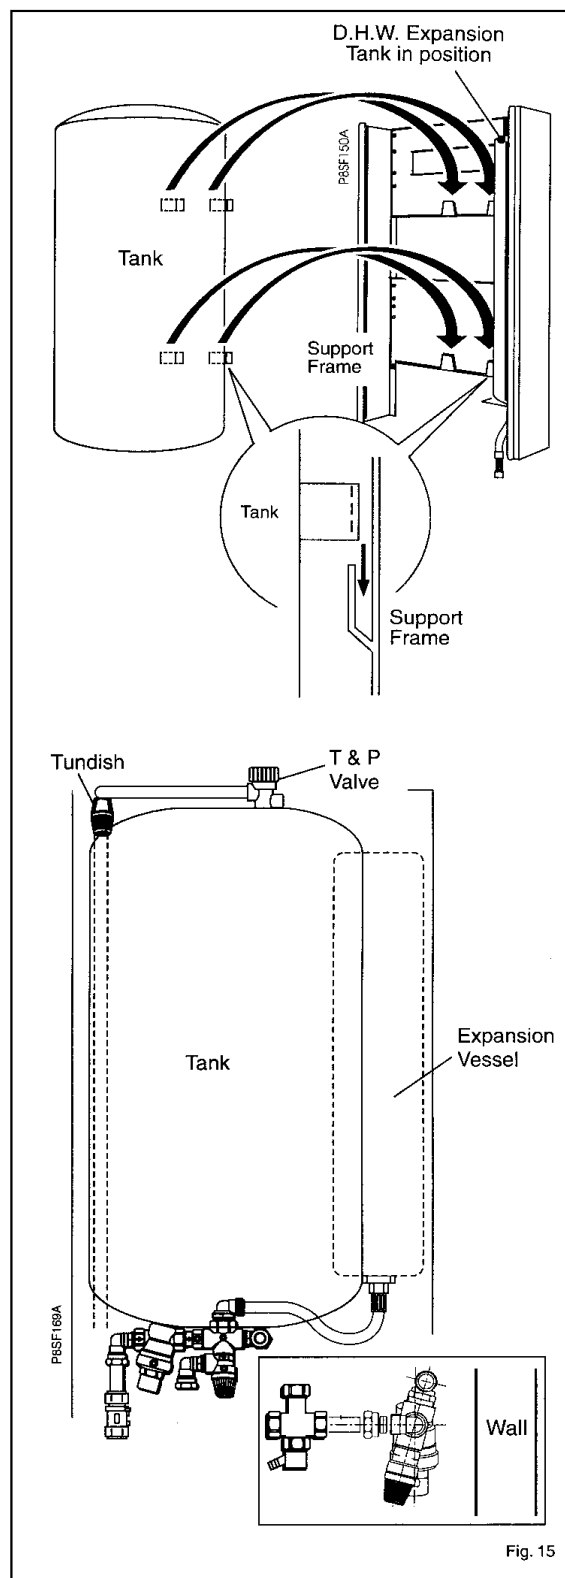

Fig. 15
- a) Connect the water controls inlet assembly to the base of the tank. See Fig. 15.
frame as shown. See Fig. 15.
- j) Connect the tundish assembly to the temperature & pressure valve as shown in Fig. 15. The tundish must be left visible to the consumer once installed and must not come into contact with any electrical components. Connect the pipe supplied to the temperature & pressure relief valve and the tundish.